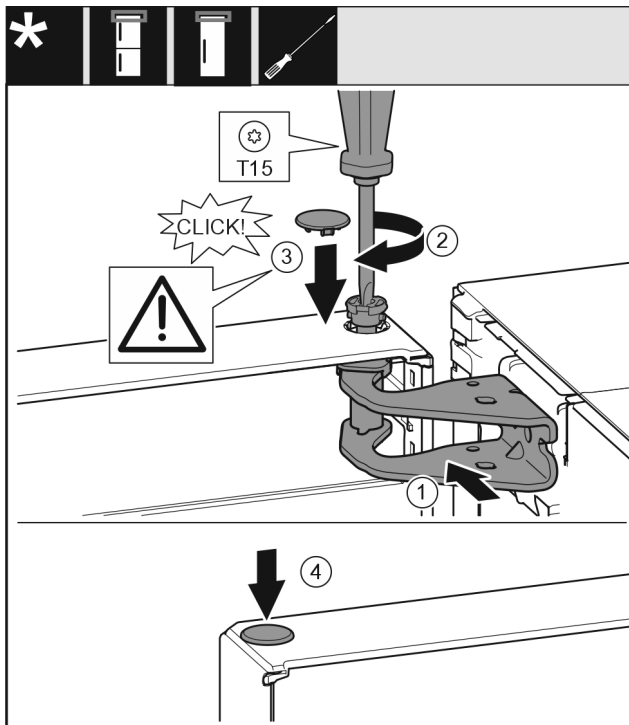

Fig. 17
- ▶ Align the top of the door with opening in the bearing bracket. Fig. 17 (1)
- ▶ Insert the bolt and tighten with a T15 screwdriver. Fig. 17 (2)
- ▶ Fit the protective cover to protect the door: Insert the protective cover and check that it lies flush on the door. If not, insert the bolt fully. Fig. 17 (3)
- ▶ Insert the plugs. Fig. 17 (4)